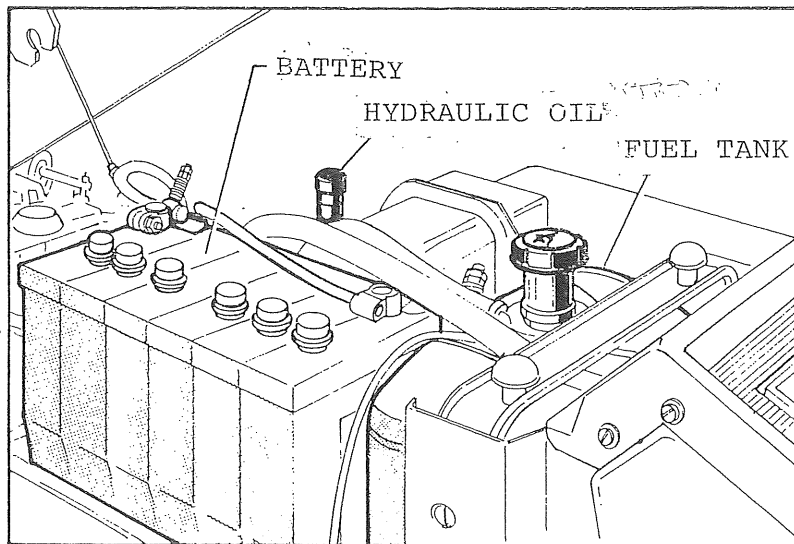

Fig. 13
3. Oil level in the hydraulic reservoir. Fig 13.